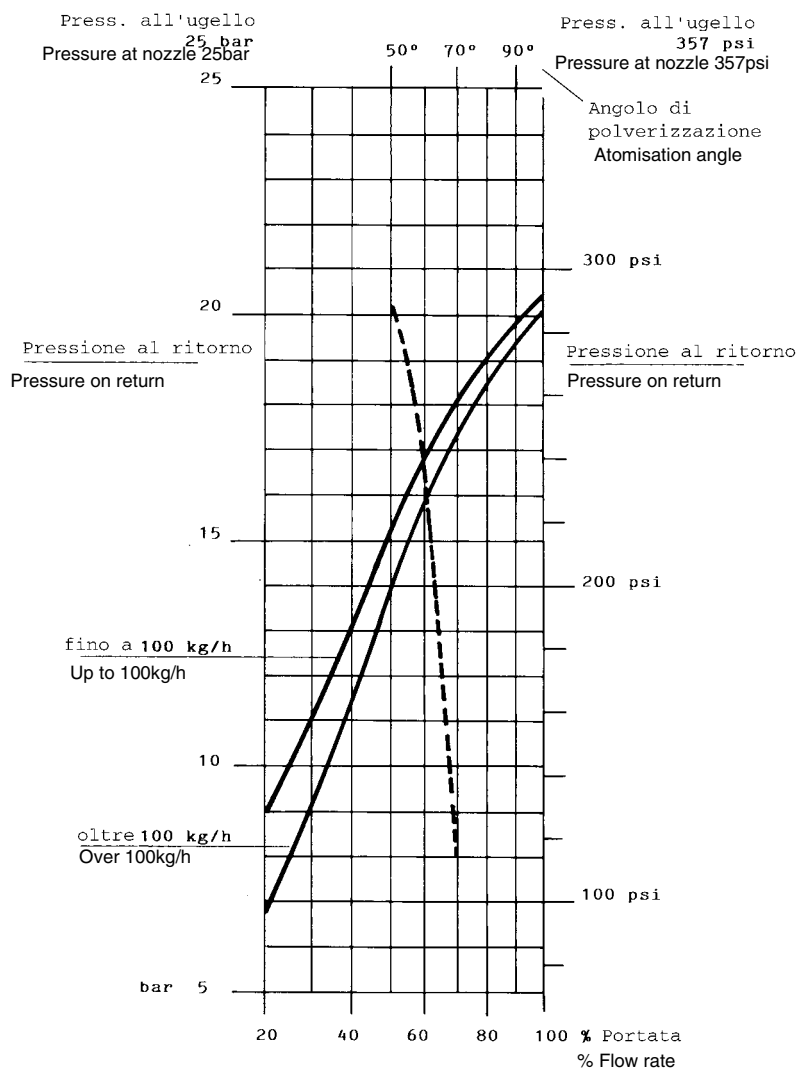

Fig. 16
The light oil flow rate can be adjusted choosing a nozzle that suits the boiler/utilisation output and setting the delivery and return pressure values according to the ones quoted on the chart below and the diagram on Fig. 16 (as far as reading the pressure values, see next paragraphs).
Example: as far as over 100kg/h nozzle the 80% of the nozzle rated flow rate is achieved with 18bar return pressure (see Fig. 16).
- 16 move cam III (low flame) towards the minimum to move the actuator towards the low flame until the two bearings find the adjusting screw that refers to a lower position: screw **V** to increase the rate, unscrew to decrease, in order to get the pressure as shown on diagram in Fig. 16, according to the requested rate.